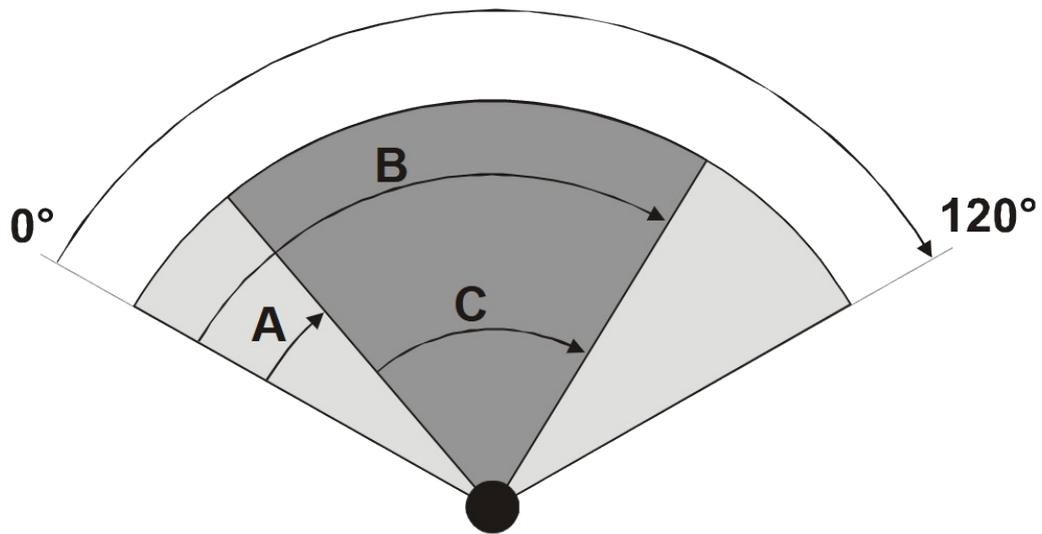

Figure 5.1
- starting point of lever movement: **20.2°** (**A** value on Figure 5.1)
- ending point of lever movement: **91.1°** (**B** value on Figure 5.1)
- lever operating range: **68.9°** (**C** value on Figure 5.1)
Figure 5.1 explains operating range of geometry lever. Maximum angle that can be achieved by moving lever is 120° (128° for Hella 6NW 010 099-xx). Actual operating range for specific actuator can be different.
'Start' values refer to starting position of geometry lever (see value A, Fig. 5.1). First of the two values displayed is a new value (22.2°) while the second one (25.1°) is the currently programmed one.